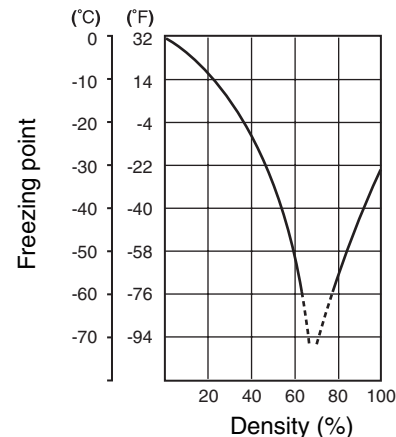

Fig.1 Engine coolant density-freezing point
- * If the motorcycle is to be exposed to temperatures below -31°C (-24°F), the percentage of antifreeze should be increased to 55% or 60%, according to figure 1.